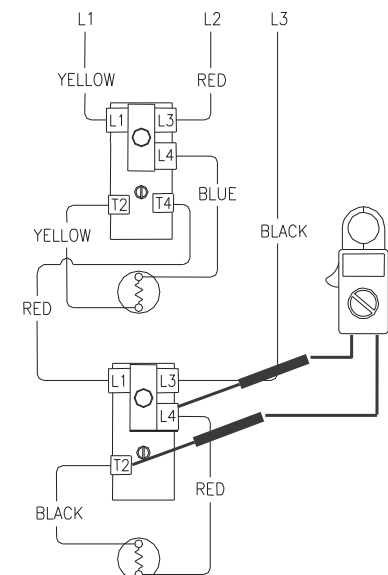

Figure 17
9. Check voltage across terminal L4 & T2 of lower thermostat (see Figure 17).
5. Check across terminals L4 and T2 of lower thermostat (see Figure 17).